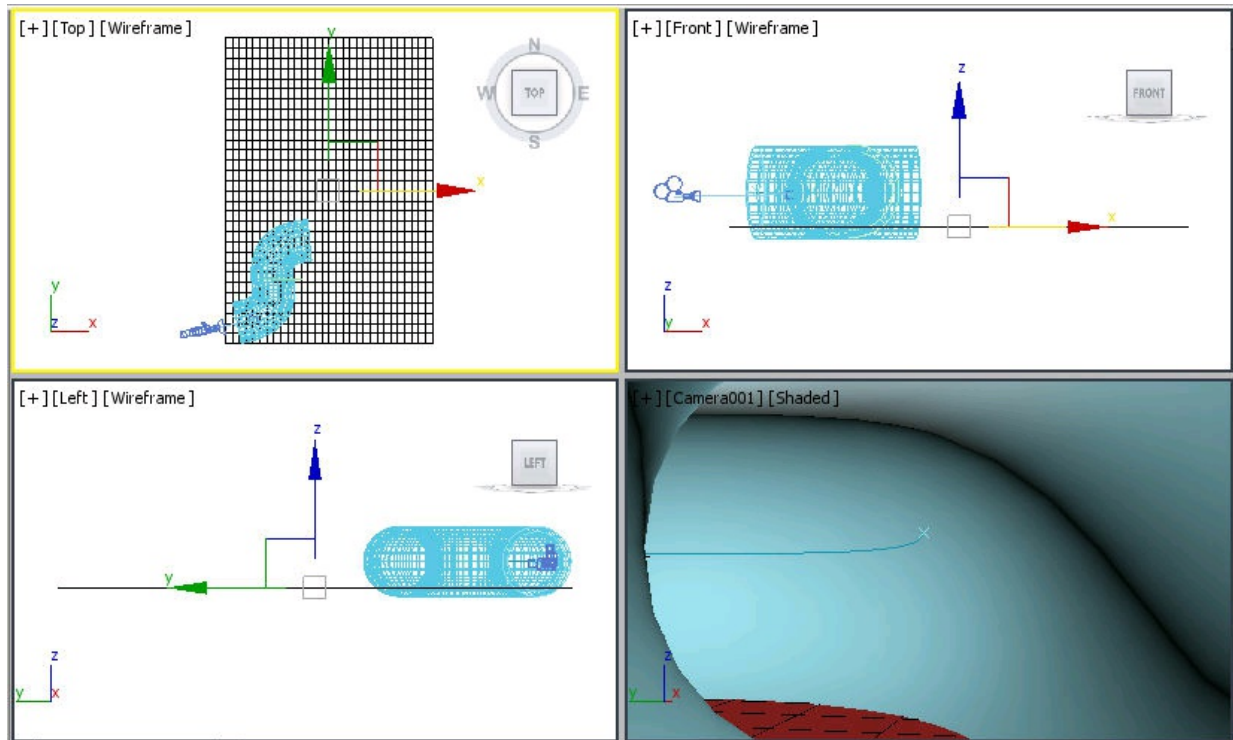

Figure 14-24 The water surface created and aligned in viewports
2. In the **Parameters** rollout, set the values in the **Length** and **Width** spinners so that the plane covers the area around the tunnel, refer to Figure 14-24. Also, set the values in the **Length Segs** and **Width Segs** spinners to **30**.
3. Name the plane in the **Name and Color** rollout as *water surface* and align it in the viewports, refer to Figure 14-24.